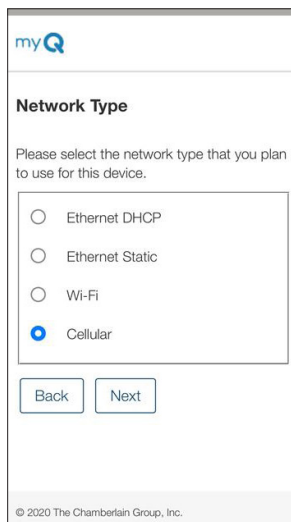

Figure 3
6. Select Cellular and click Next. (See Figure 3)